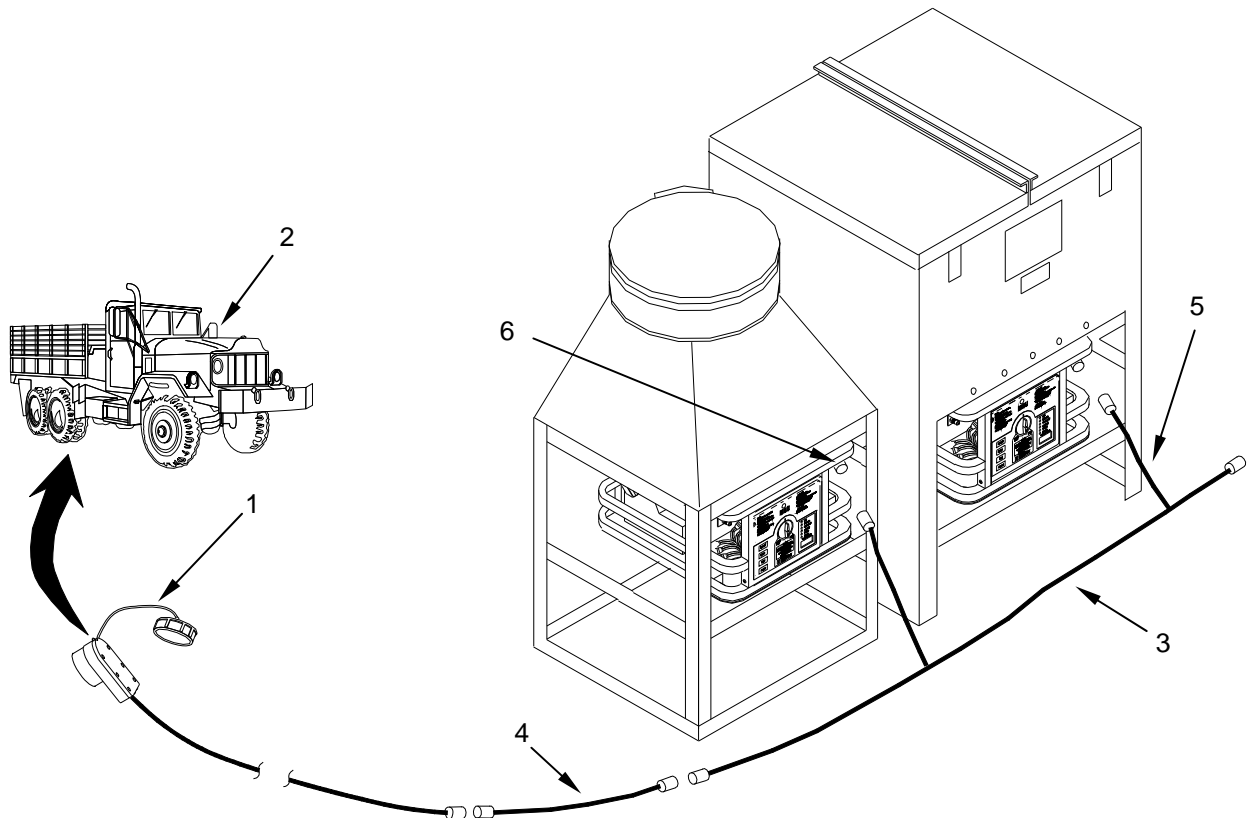

Figure 5. Connect Power Cables Using Vehicular Power Alone.
1. Connect the 25-ft NATO adapter cable (Figure 5, Item 1) (24VDC) between the vehicle supplying power (Figure 5, Item 2) and a 2-branch power cable (Figure 5, Item 3). If additional length is required, connect the 25-ft (24VDC) extension cable (Figure 5, Item 4) between the branch cable and the NATO adapter cable.
2. Connect the cable branches (Figure 5, Item 5) (24VDC) to the individual burner power connectors (Figure 5, Item 6).